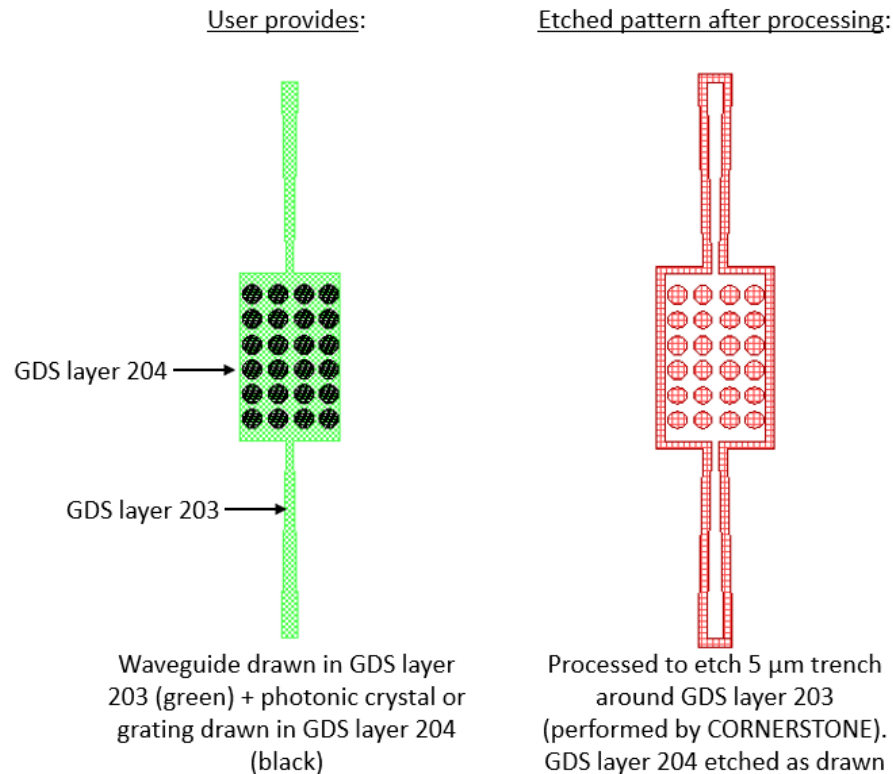

Figure 2 – Example photonic crystal structure using GDS Layers 203 & 204.
- Silicon Nitride Etch 1: 300 nm full etch to BOX – GDS Layer 204 (Dark field): Drawn objects on this layer will be exposed to the silicon nitride full etch to the BOX. An example photonic crystal structure is shown in Figure 2. The important thing to note here is that the waveguide layer drawn in GDS layer 203 should overlap the structures drawn in GDS layer 204, so that when the 5  $\mu\text{m}$  trenches are generated by CORNERSTONE, a continuous waveguide remains. Note that the client should